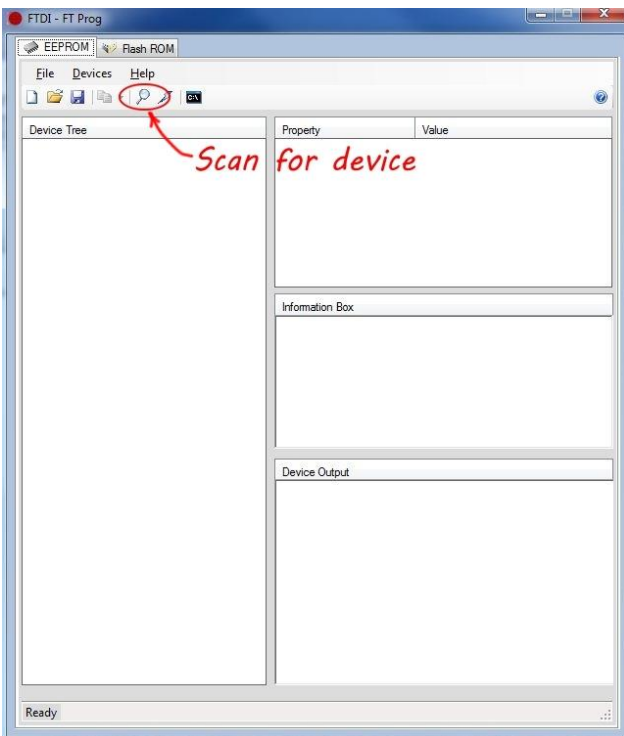

Figure 25 Scan for devices
Step 5. Scan the USB bus for USB-3000™ devices, by clicking on the "Scan and Parse" magnifying glass button on the toolbar (see Figure 25 Scan for device). Alternatively, select "Scan and Parse" from the "Devices"